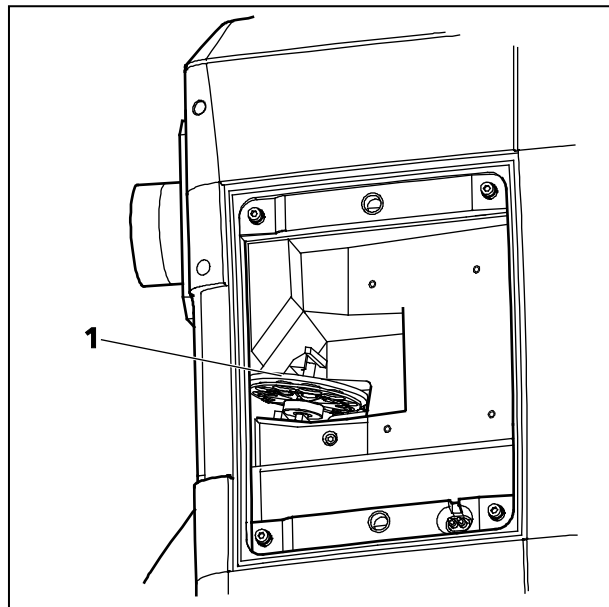

Fig. 32 LSM 710 / LSM 780 filter wheel
- Turn the filter wheel (Fig. 32/1) until the free position points upwards. Do not touch the filters!